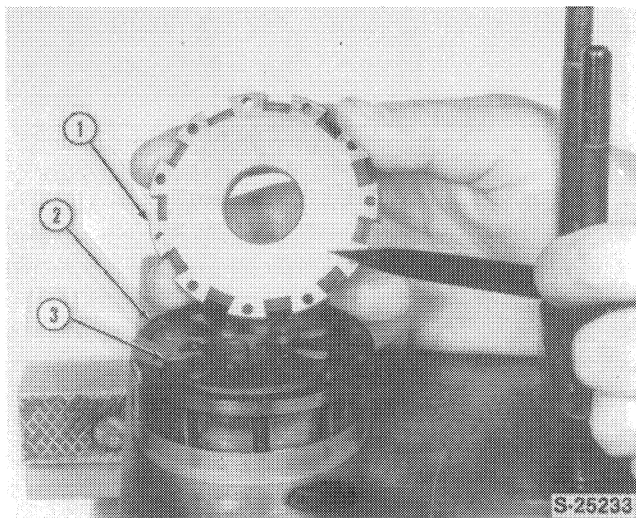

FIGURE 6-44
24. Lift the commutator cover, 1, from the metering package, Figure 6-44.
25. Remove the commutator ring, 2, Figure 6-44.